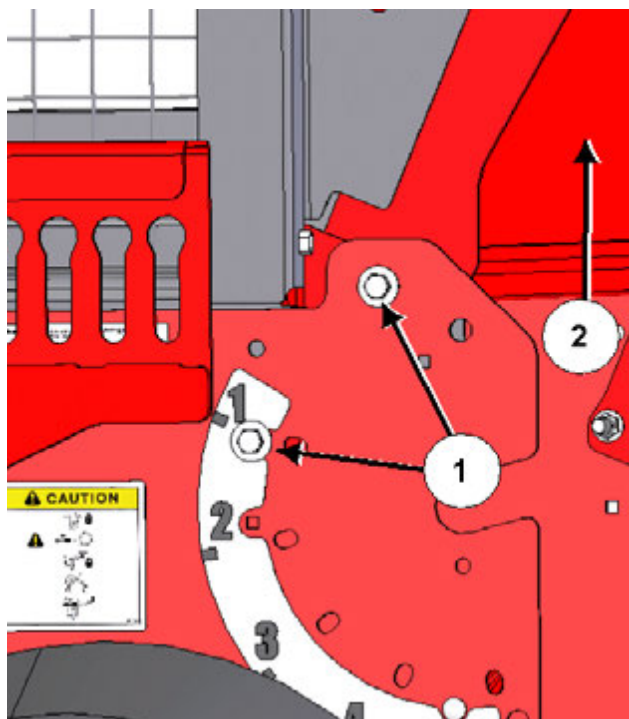

Figure 18: Loosen bolts on front tub wall
1. Loosen the upper bolts (1) fastening the side deflector (2) to the front and rear tub walls to allow the tub wall panels to flex; see *Figure 18*.